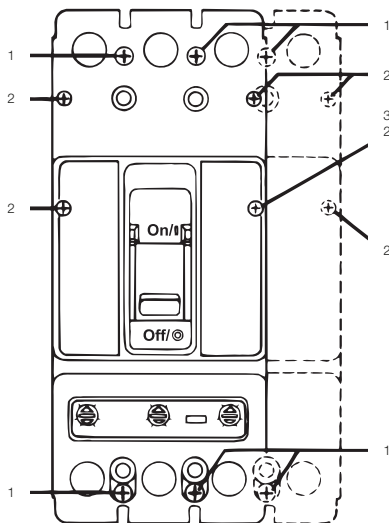

Figure 3: cover screw installation positions
- Install cover, and secure with pan-head screws followed by thread-forming screws, as shown in Figure 3. Torque cover screws to 18-23 LB-in (2-2.6 N.m).